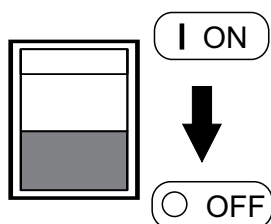

Figure 22. Idle Control Switch (OFF)
- Place idle control switch (Figure 22) in the **OFF** position. This will allow the engine speed to run at about 3600 RPM's (*high speed*).
Placing the idle control switch in the **OFF** position (Figure 22) allows the engine to operate at a maximum speed of about 3600 RPM's.